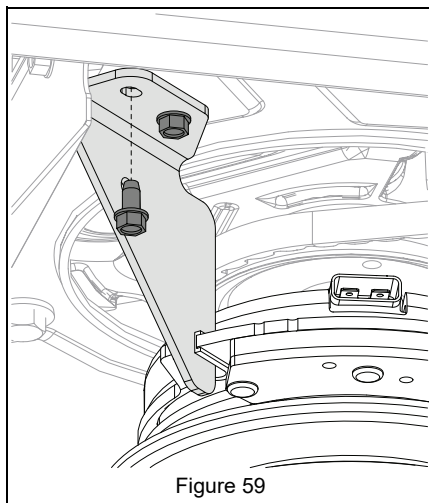

Figure 59
See Figure 59.
4. Reinstall clutch stop bracket and secure with original hardware. See Figure 59.